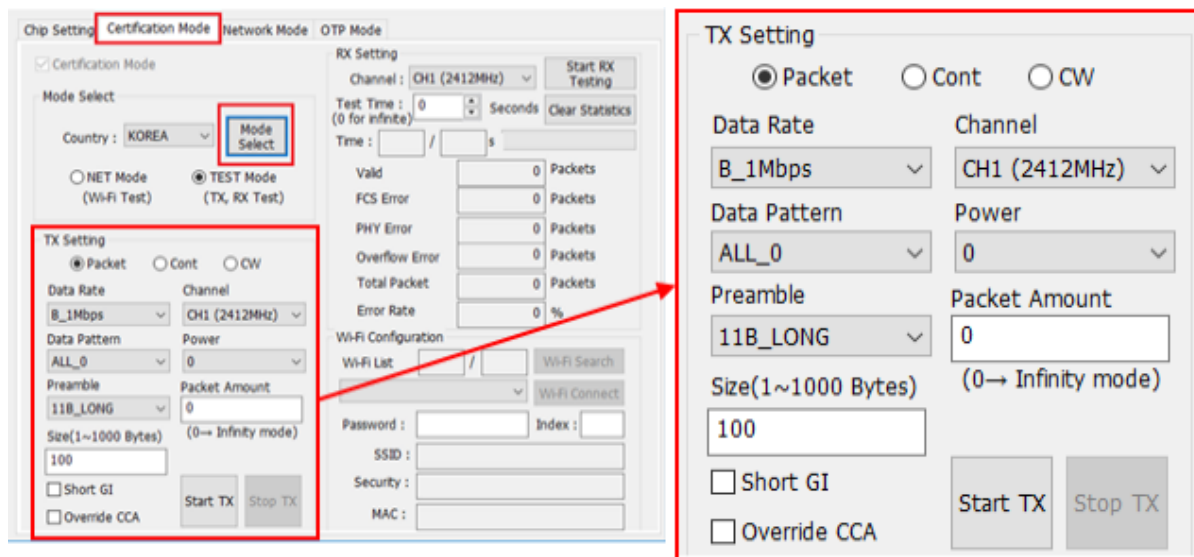

Figure 9: Tx Test Mode Configuration
1. Open the **Certification Mode** tab. See Figure 9.
2. Click the **Mode Select** button (Figure 9). A confirmation message is shown as in Figure 10. This is a normal state.